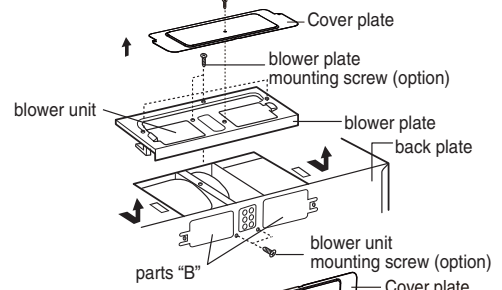

Figure 19
1. Remove one cover plate mounting screw and cover plate. Remove one or several blower plate mounting screw(s) and the blower plate. Remove the cover plate and one or two blower unit mounting screw(s). See Figure 19.